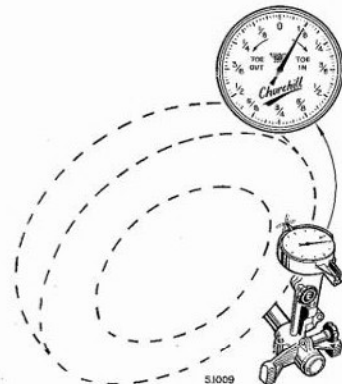

Fig. J.5. Churchill Tracking Gauge in position at the rear of the front wheels
15. Place the gauge under the vehicle at the rear of the front wheels with the dial pointer to the left-hand side of the vehicle. (See Fig. J.5.)
20. Take the reading on the dial. (See Fig. J.5.)